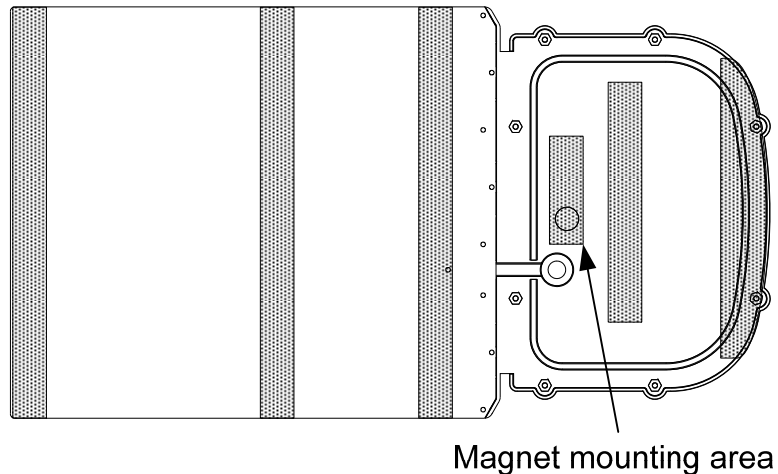

Figure 2
6.3.2. Clean the area where the tape (see Figure 2) will be applied using the 50-50 IPA and water solution and a clean lint free towel. Ensure any dirt, film, oil, wax, or other contaminants are removed from the mounting area, allow the surface to dry thoroughly before abrading the surface.
- 6.4.1. Flip back the short piece of VHB(TM) (Very high Bond Tape) on the MCU and **install the magnet** in the pocket under where the tape will be applied. See Figure 2.
THE MAGNET **SHALL BE** PLACED AS SHOWN IN FIGURE 2 BEFORE INSTALLING THE MCU, IF THE MAGNET IS NOT PLACED PROPERLY, THE DEVICE WILL NOT WORK